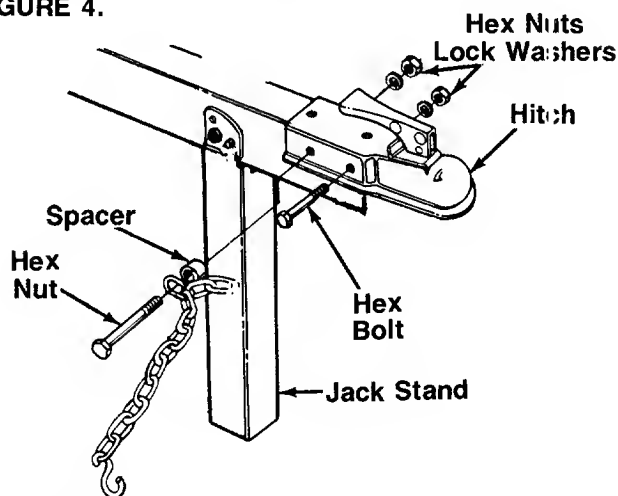

FIGURE 5.
2. Place the hitch in position on the end of the tongue as shown in figure 5. Secure with hardware just removed.